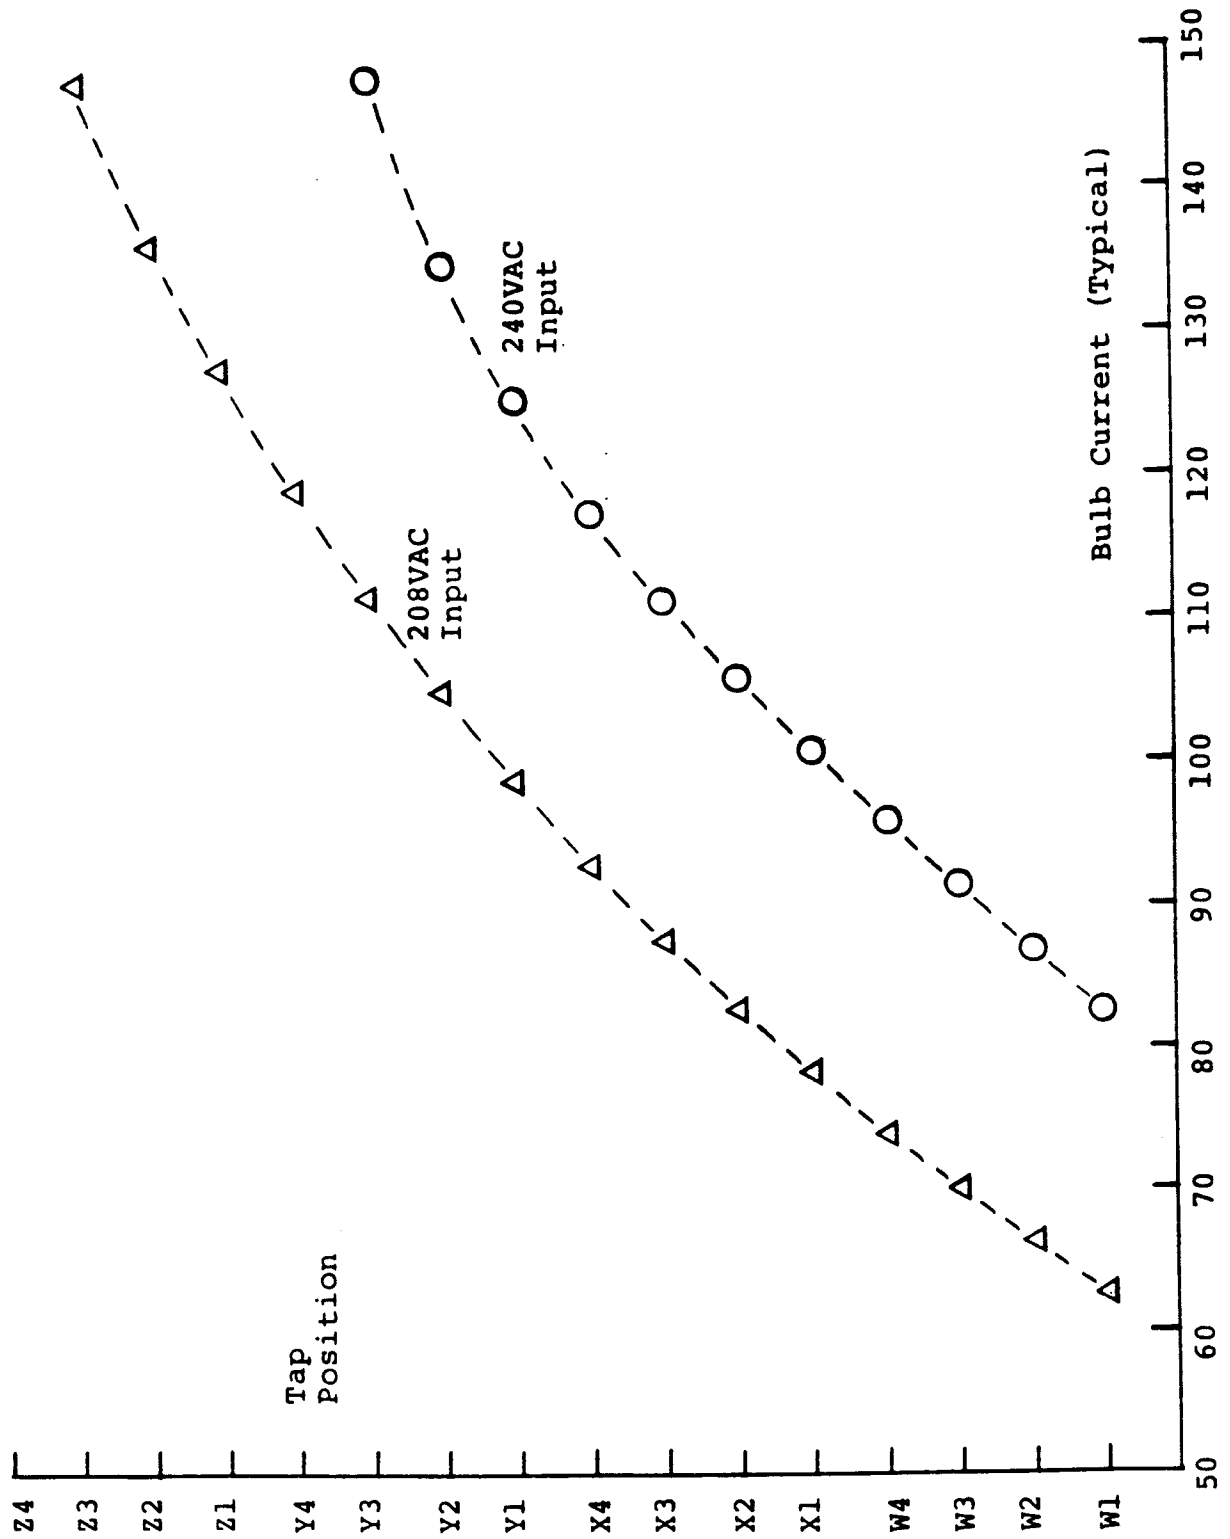

Figure 4-11. Tap Position Versus Typical Bulb Current (XPS-45)
d. Fine current adjustments are made by moving the shorting bar on the "1, 2, 3, 4" terminal strips. The current increases with the higher numbers. Typical lamp current versus tap positions are shown in Figure 4-11. Note that a one-step coarse adjustment is equivalent to five fine adjustment increments.